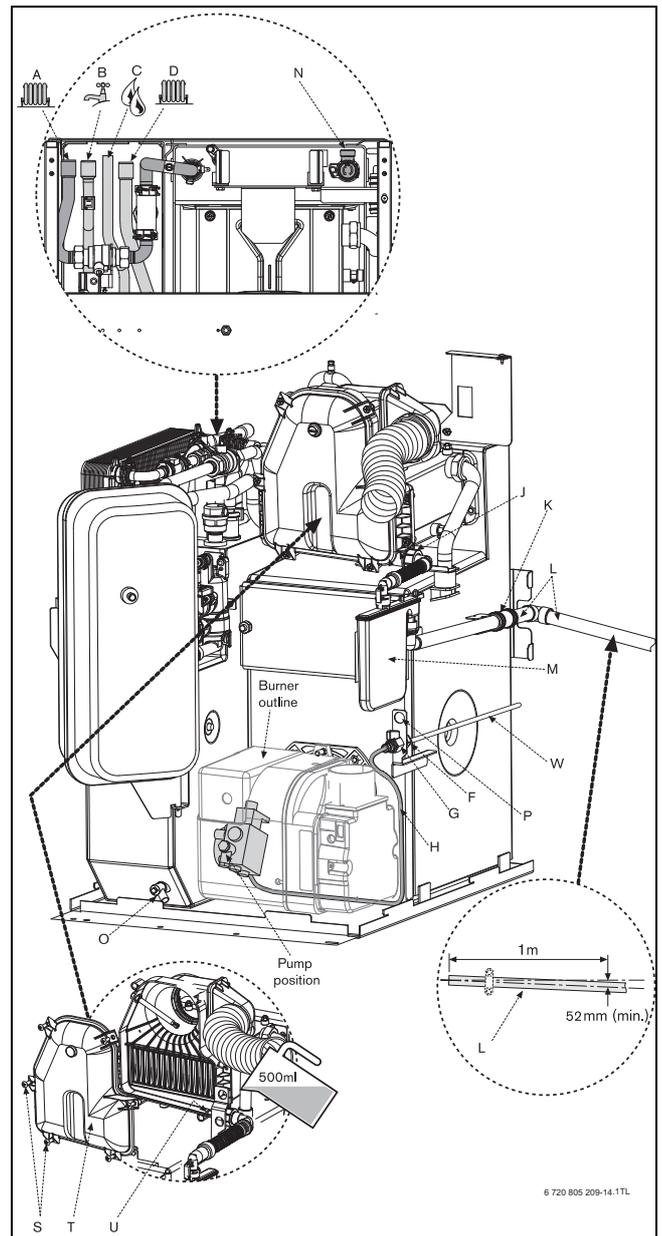

Fig. 30 Pipe connections
Refer to figure 30 on page 21
2. Connect the flexible oil pipe return hose [3] (not supplied) to the oil pump and return pipe fixing and tighten to secure (for routing see figure 30).
- ▶ Check that the burner is seated correctly on its mounting flange and that the oil hose/s are routed correctly as shown in Fig. 30 on page 21 and not trapped in front of or underneath the burner.